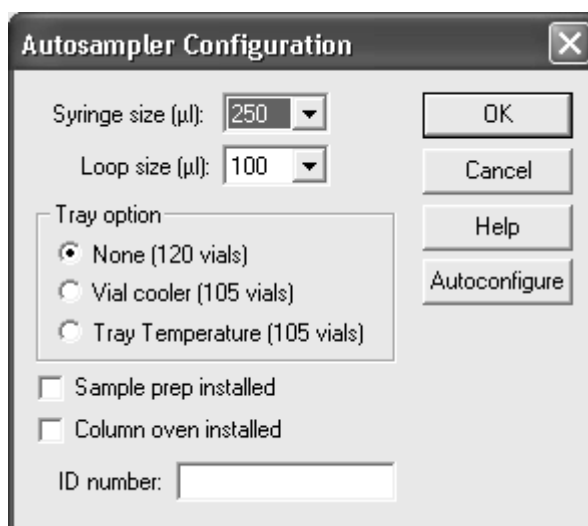

Figure 5-6. Autosampler Configuration dialog box
- c. Double-click on the TSP Autosampler button in the Configured Devices group box. Xcalibur opens the TSP Autosampler Configuration dialog box. See Figure 5-6.